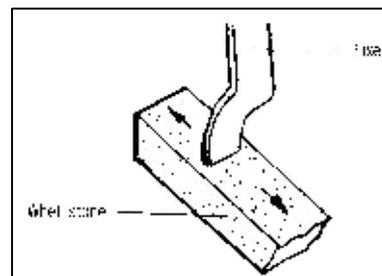

Fig.31
- B. If the edge of the fixed blade is worn, make sure to grind the knife edge with an oil grindstone as shown in Fig.31.